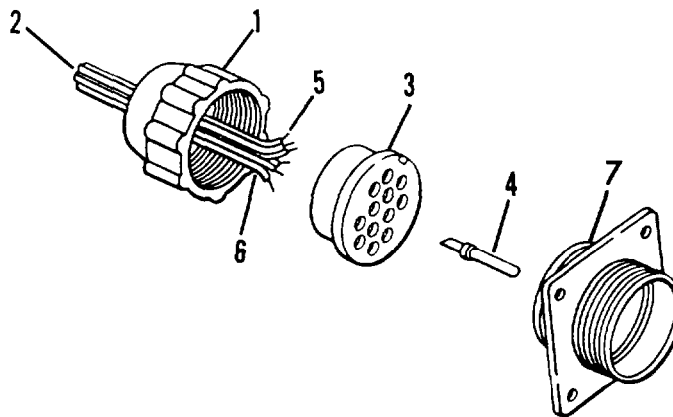

Figure 4-15. 24 volt receptacle assembly
- (1) Unscrew grommet retaining nut 1, figure 4-15 and slide back on cable assembly (2).
- (2) Slide grommet (3) on cable assembly (2).
- (3) Using pliers, pull inserts (4) forward out of grommet (7).
- (4) Using soldering gun, heat solder well and remove pins (4) from wire end (5).
- (5) Pull wire (6) out of grommet (3) and nut (1).
- (1) Coat grommet (7, figure 4-15) in the receptacle assembly with a light film of petroleum.
- (2) Install each pin (4) in the rear of the receptacle assembly grommet (7). Make sure that the identifying letters are matched with the identical letters on the grommet (3).
- (3) Slide retaining nut (1) on wire threads (6) facing outward.
- (4) Put wire ends (6) into back of grommet (3). Make sure that the wires (6) are matched with the proper pins (4).
- (5) Strip insulation on wire ends (6) equal to depth of solder well in pins (4). Place solder well on wire ends and solder.
- (6) Push solder wells into grommet (3) until seated. Push grommet (3) in receptacle assembly.
- (7) Screw retaining nut (1) on grommet (3) and tighten hand tight.